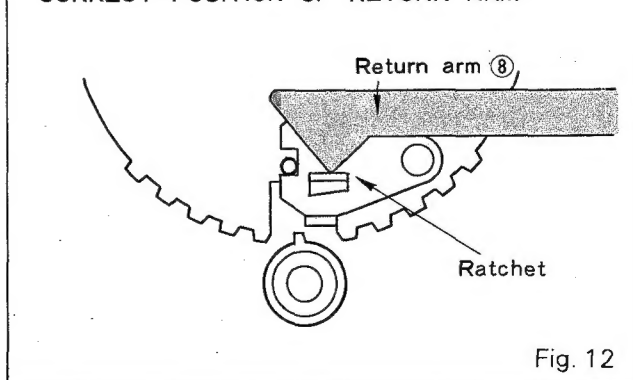

Fig. 12
- Yes: Place the return arm to the correct position as shown in Fig. 12.